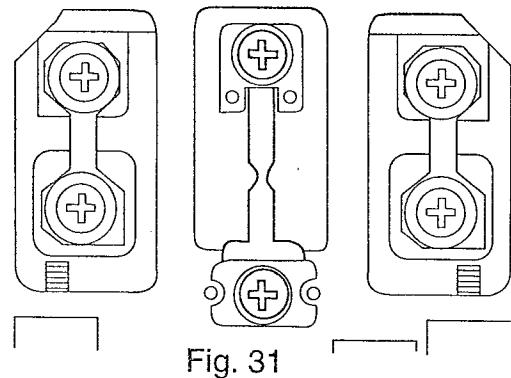

Fig. 31
Step 11. Install and tighten the tension flexure lightly (Fig 31)